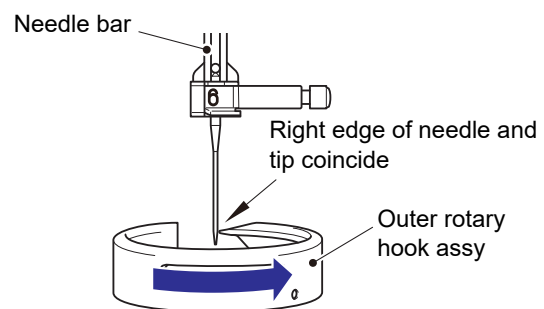

Fig.3
7. Turn the outer rotary hook assy by hand in the direction of the arrow, and adjust the right edge of the needle to be coincided with the outer rotary hook assy point. (Fig.3)
- In case the position of the screw is too right, the needle thread block contacts the needle bar supporter assy and get damaged. (Fig.3)